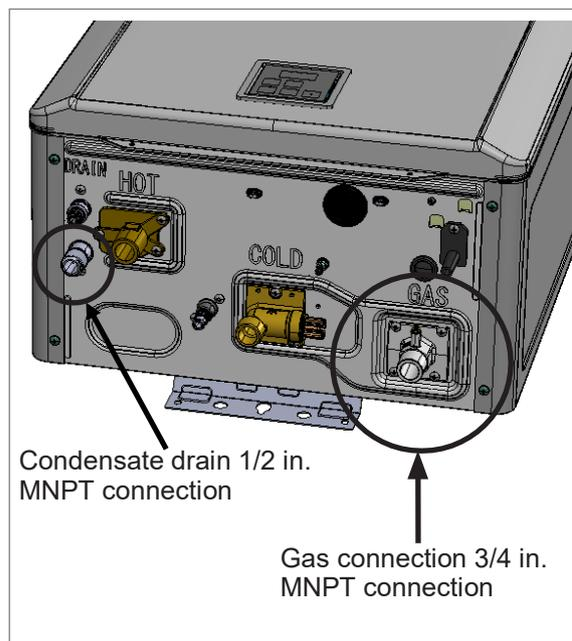

Figure 48
1. Apply thread sealant to 1/2 in. MNPT condensate drain port. Refer to Figure 48 for location of condensate drain.